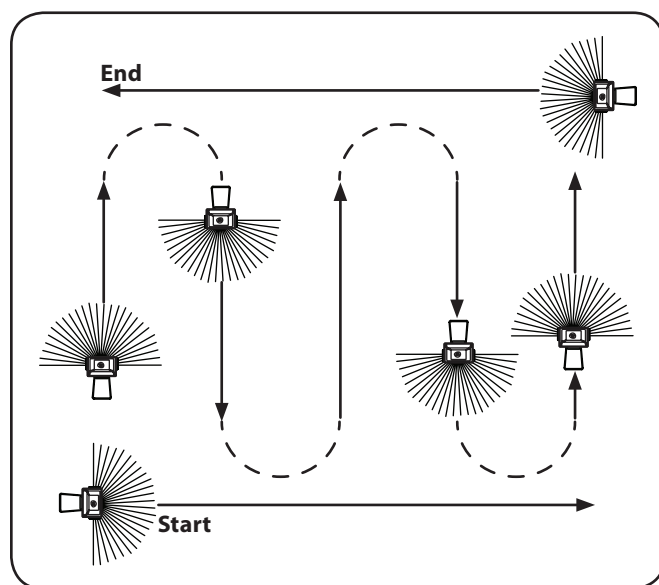

Figure 5-1
5. See Fig. 5-1 for a recommended pattern to follow when using the spreader.